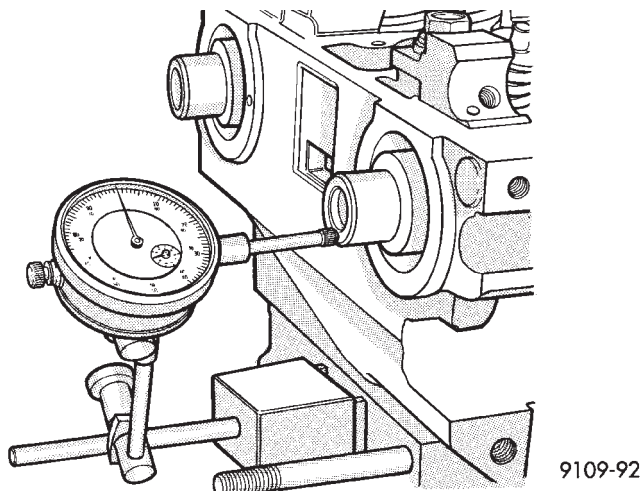

Fig. 6 Checking Camshaft End Play
(1) Using a suitable tool, move camshaft as far rearward as it will go.
(2) Zero dial indicator (Fig. 6).
(3) Move as far forward and backward as camshaft will go.
(4) End play travel: 0.025-0.200mm (.001-.008 inch).
(1) Remove valve cover. Refer to procedure previously outlined in this section.
(2) Remove rocker arm shaft(s) in sequence shown in (Fig. 6). Slide rocker off the shaft. Keep rocker arms in order for reassembly.